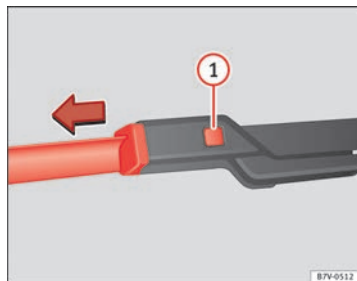

Fig. 160 Changing the front wiper blades
- Hold down the release button ⇒ Fig. 160 ① while gently pulling the blade in the direction of the arrow.